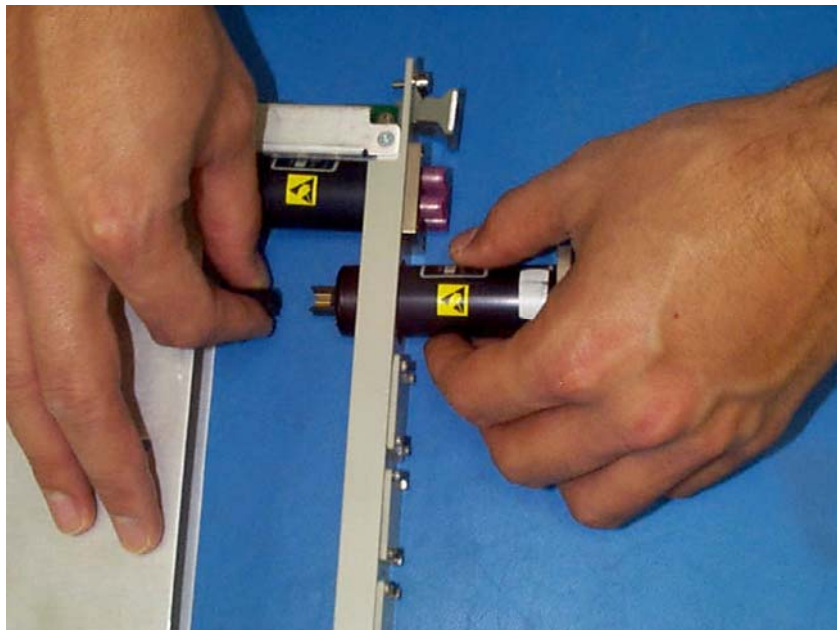

FIGURE 4-9: DISCONNECTING THE SWITCH
5. Grasp the connector and switch and remove the switch from the connector, ensuring that stress between the connector and chassis is minimized to reduce the possibility of removing the pigtail from its connector in the chassis. (See Figure 4-9).